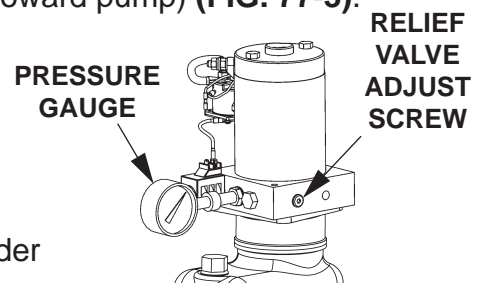

FIG. 77-2
9. With Platform on the ground, remove the pressure hose and fitting from Pump and replace it with a 0-3000 PSI Pressure Gauge. Hold the Control Switch in the "RAISE" position. Adjust the Relief Valve on the side of the Pump until the gauge shows 2800 to 3000 PSI (FIG. 77-2). Remove gauge and reinstall pressure hose.